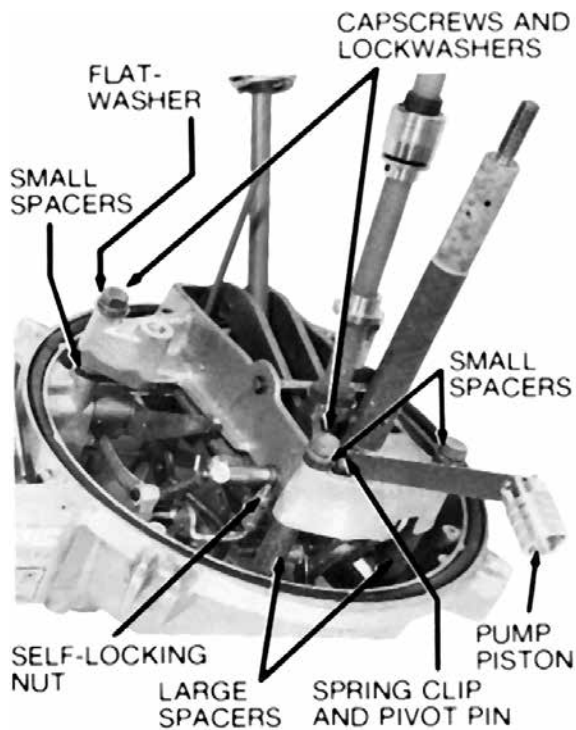

Figure 38. Removing head operating mechanism
2. Figure 38 shows a head assembly as it appears after the arc-interrupting structure, series-trip solenoid, hydraulic mechanism, insulating stringers and bushings have been removed. Remove self-locking nut and
four hex cap screws with lockwashers indicated in Figure 38. Note the use of the flatwasher under the capscrew nearest the operating lever. Also note the use of two small spacers at the back of the head mechanism and the use of two small and two large spacers at the front of the head mechanism (Figure 38).
3. If desired, remove the pump piston by removing the spring clip and pivot pin (Figure 38).
5. Connect the solenoid plunger and contact rod to the operating mechanism. Bolt the operating mechanism in the position shown in Figure 38.